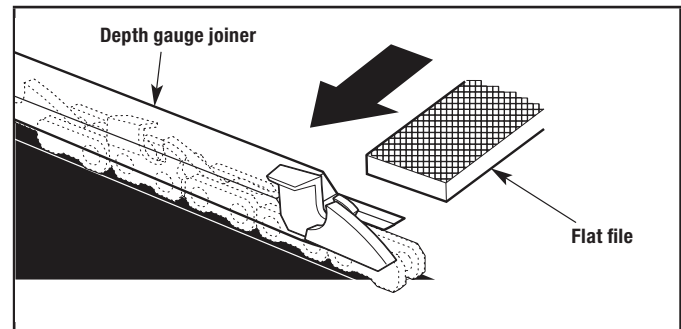

Figure 35
3. Use a depth gauge tool (not included) to measure the depth gauge clearance (Fig. 35) of each cutter. The depth gauge clearance must be maintained at 0.025 inch (0.635 mm). The depth gauge clearance determines the depth at which the cutter enters the wood during operation and the size of the wood chips produced. Too much clearance increases the chance of kickback. Too little clearance decreases the size of the wood chips, thus decreasing the ability to cut.
- 3a. Use a 0.025 inch (0.635 mm) depth gauge joiner and a flat file (tools not included) to lower the depth gauge to the correct clearance (Fig. 35).